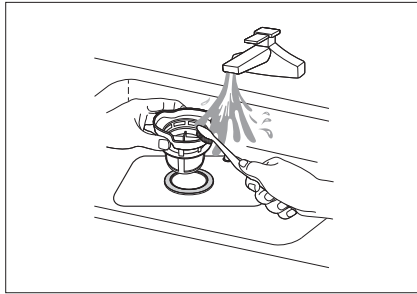

Fig. 20
- ▶ Rinse the filters under running water and clean them thoroughly with a brush (see **Fig. 20**). After each wash cycle, check whether larger objects are blocking the filter and remove them immediately.